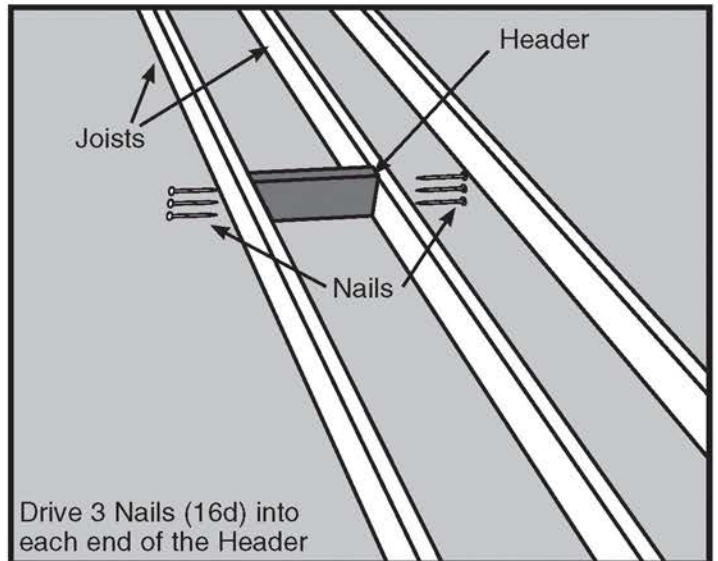

Figure 12
- STEP 3. Place one of these headers at one end of your chosen location (See Figure 12). The header must fit snugly between the joists. Hammer it into position if necessary; if it is more than 1/16" too long, trim it. If it is more than 1/16" too short, cut another piece.
- STEP 4. Square the header to one joist and drive 3 nails (16d) through the joist and into the header. Check for squareness and drive 3 nails (16d) through the other joist and into the header (See Figure 12). It is very important that header board is vertically square as well as horizontally square to side joists.